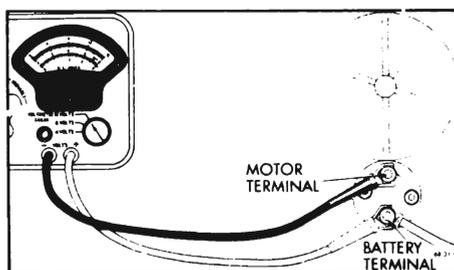

Figure 68-25--Solenoid Switch Contact Test Connections
6. With voltmeter switch turned to any scale above 12 volts, connect voltmeter negative (-) lead to the motor terminal of solenoid switch, and connect positive () lead to battery terminal of switch. See Figure 68-25.